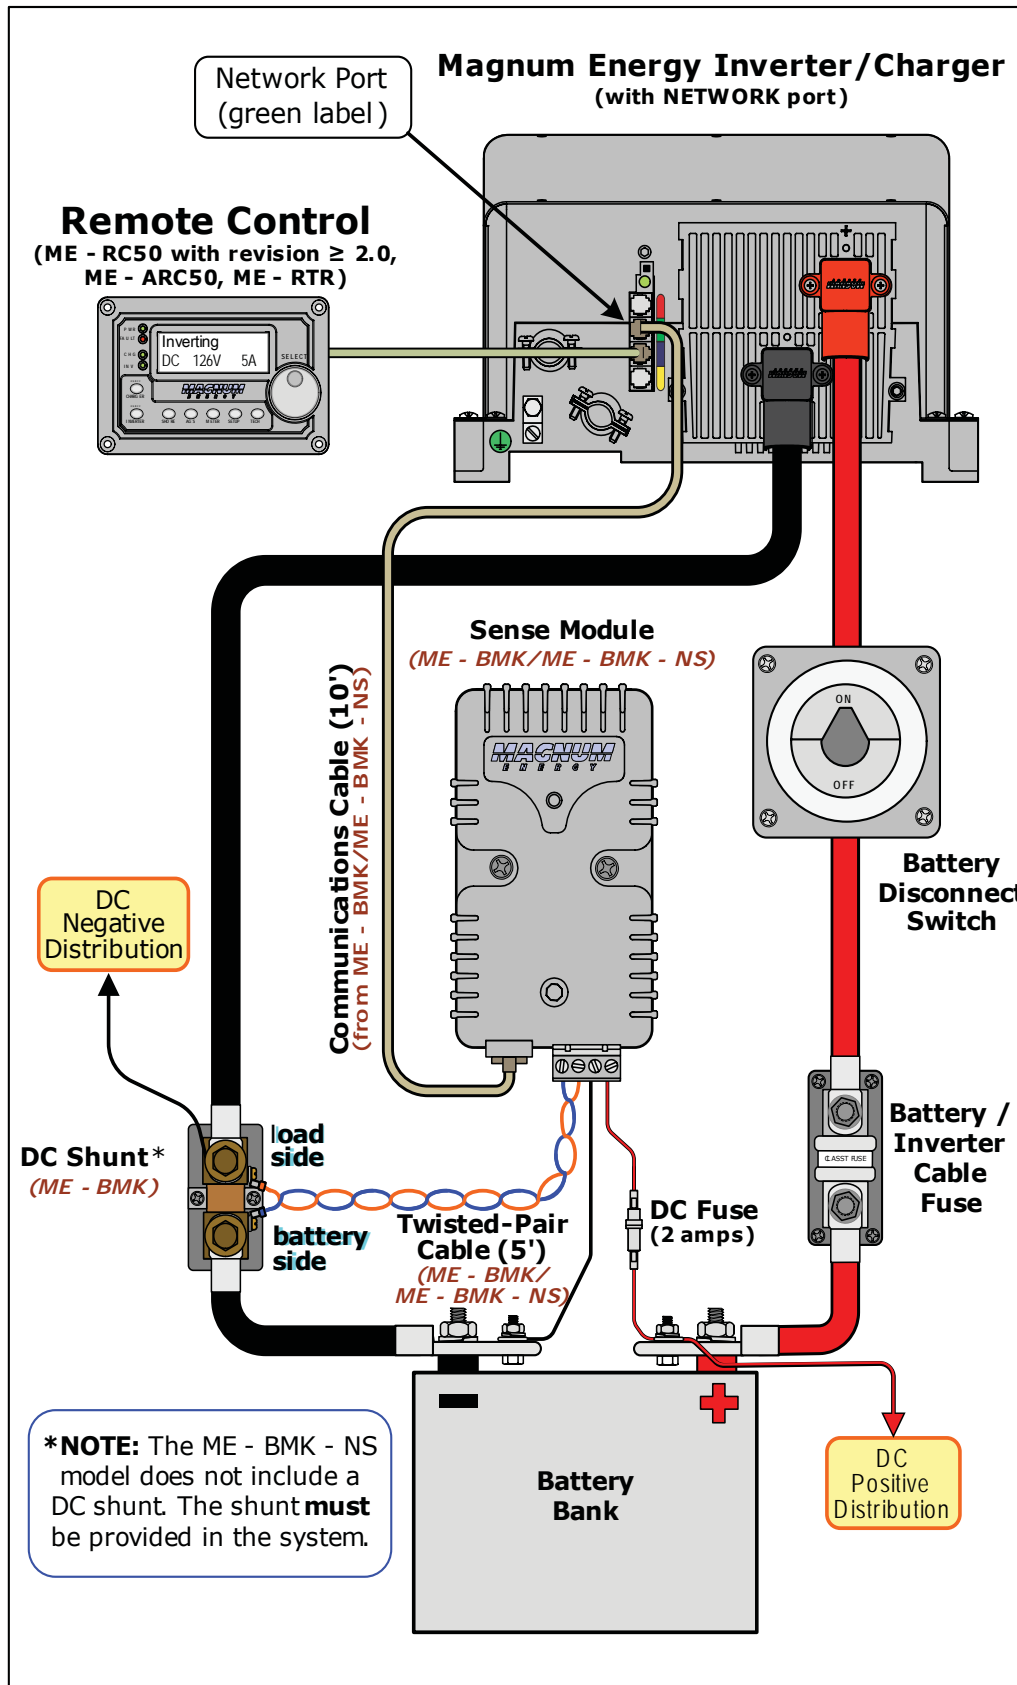

Figure 2-1, ME-BMK Installation Diagram
The ME-BMK is compatible with all Magnum inverters/chargers that have been provided with a Magnum Net or Network port (see Figure 2-1). The ME-BMK requires either an ME-RC50 (revision 2.0 or higher) remote, ME-ARC50 remote, or an ME-RTR router to access the available settings and features.
To assist in planning and designing your installation, review the basic system diagram in Figure 2-1. If another network device besides the ME-BMK is to be installed, refer to Section 2.3 to determine your specific network configuration.
2. Connect the communications cable to the RJ11 Net port beside the green label (Network port) on the Magnum inverter/charger (see Figure 2-1).